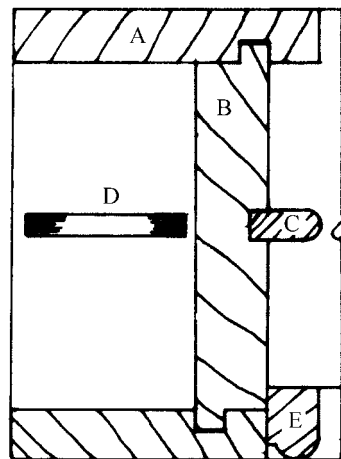

Fig.1
2. Figure 1 shows the part plan of a traditional sliding casement window. Name the parts indicated.